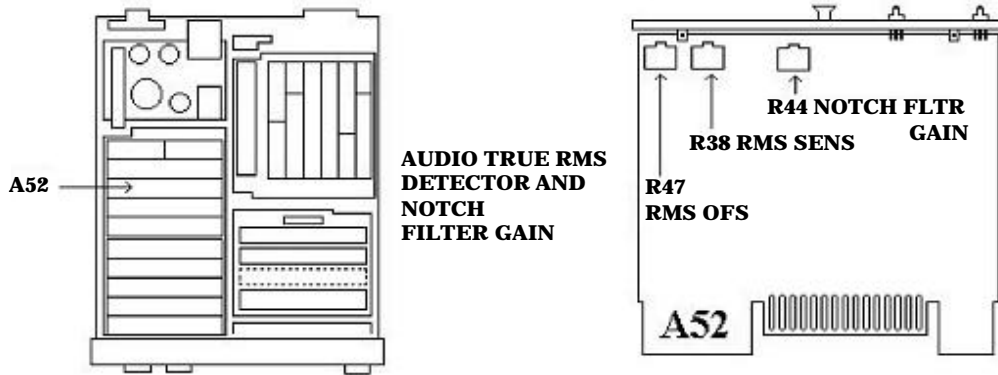

Figure 15. A52 board.
- (5) Adjust A52R47 RMS OFS (fig. 15) for a TI indication of between -0.0005 and 0.0005 . (R)
- (6) Press TI keys as listed in (a) and (b) below:
- (7) Using a tee connector, connect audio analyzer **OUTPUT HI** to TI **MODULATION OUTPUT /AUDIO INPUT** and digital multimeter **INPUT**.
- (8) Set digital multimeter to read ac volts.
- (9) Set audio analyzer for an output frequency of 2 kHz at a level of 3.9 Volts.
- (10) Adjust A52R38 RMS SENS (fig.15) for a TI display equal to the indication of the digital multimeter to the third decimal place. (R)
- (11) Change audio analyzer output level to 100 mV.
- (12) Press TI keys as listed in (a) and (b) below:
- (13) Adjust A52R44 NOTCH FLTR GAIN (fig. 15) for a TI display between 99.9 and 100.1%. (R)
- (14) Change audio analyzer output frequency to 800 Hz.
- (15) Press TI keys as listed in (a) and (b) below:
- (16) TI indication should be greater than 98%.
- (17) Reduce all outputs to minimum and disconnect equipment setup.